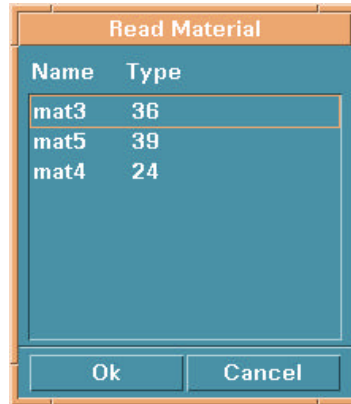

Figure 5.6.1 Material Library
1. Select IMPORT and the READ MATERIAL window appears, see Figure 5.6.1.